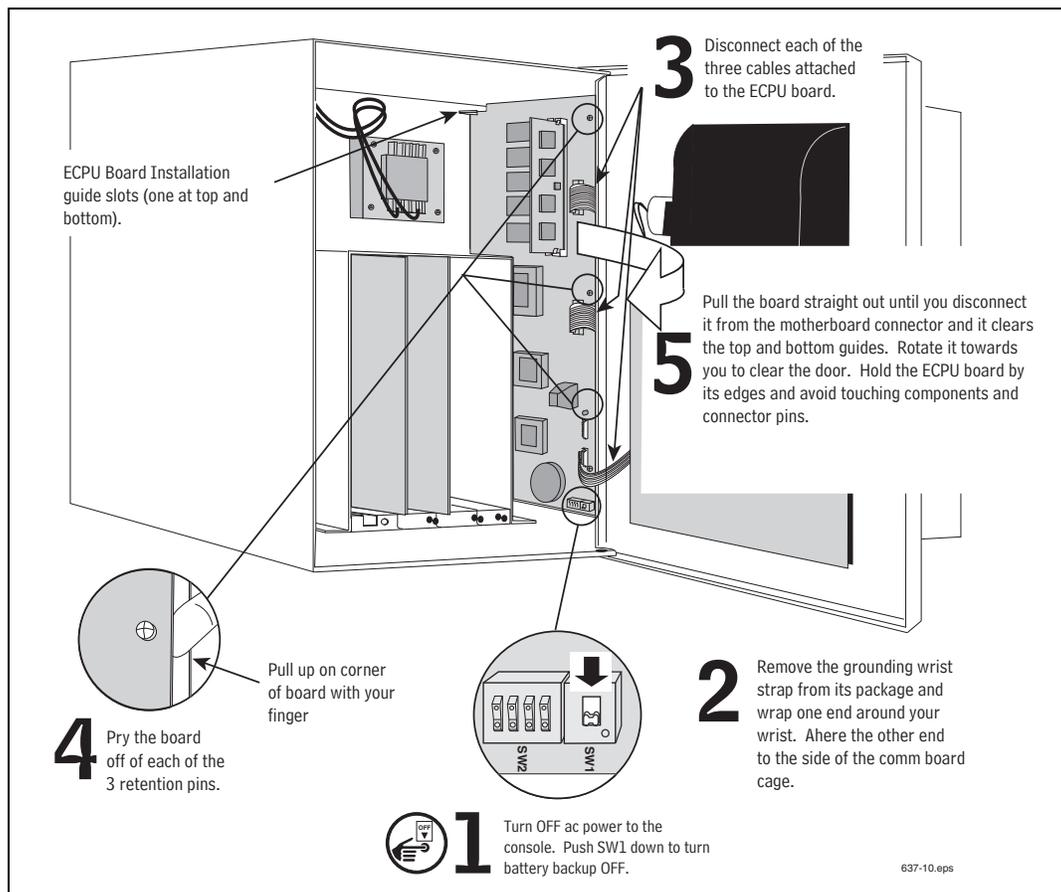
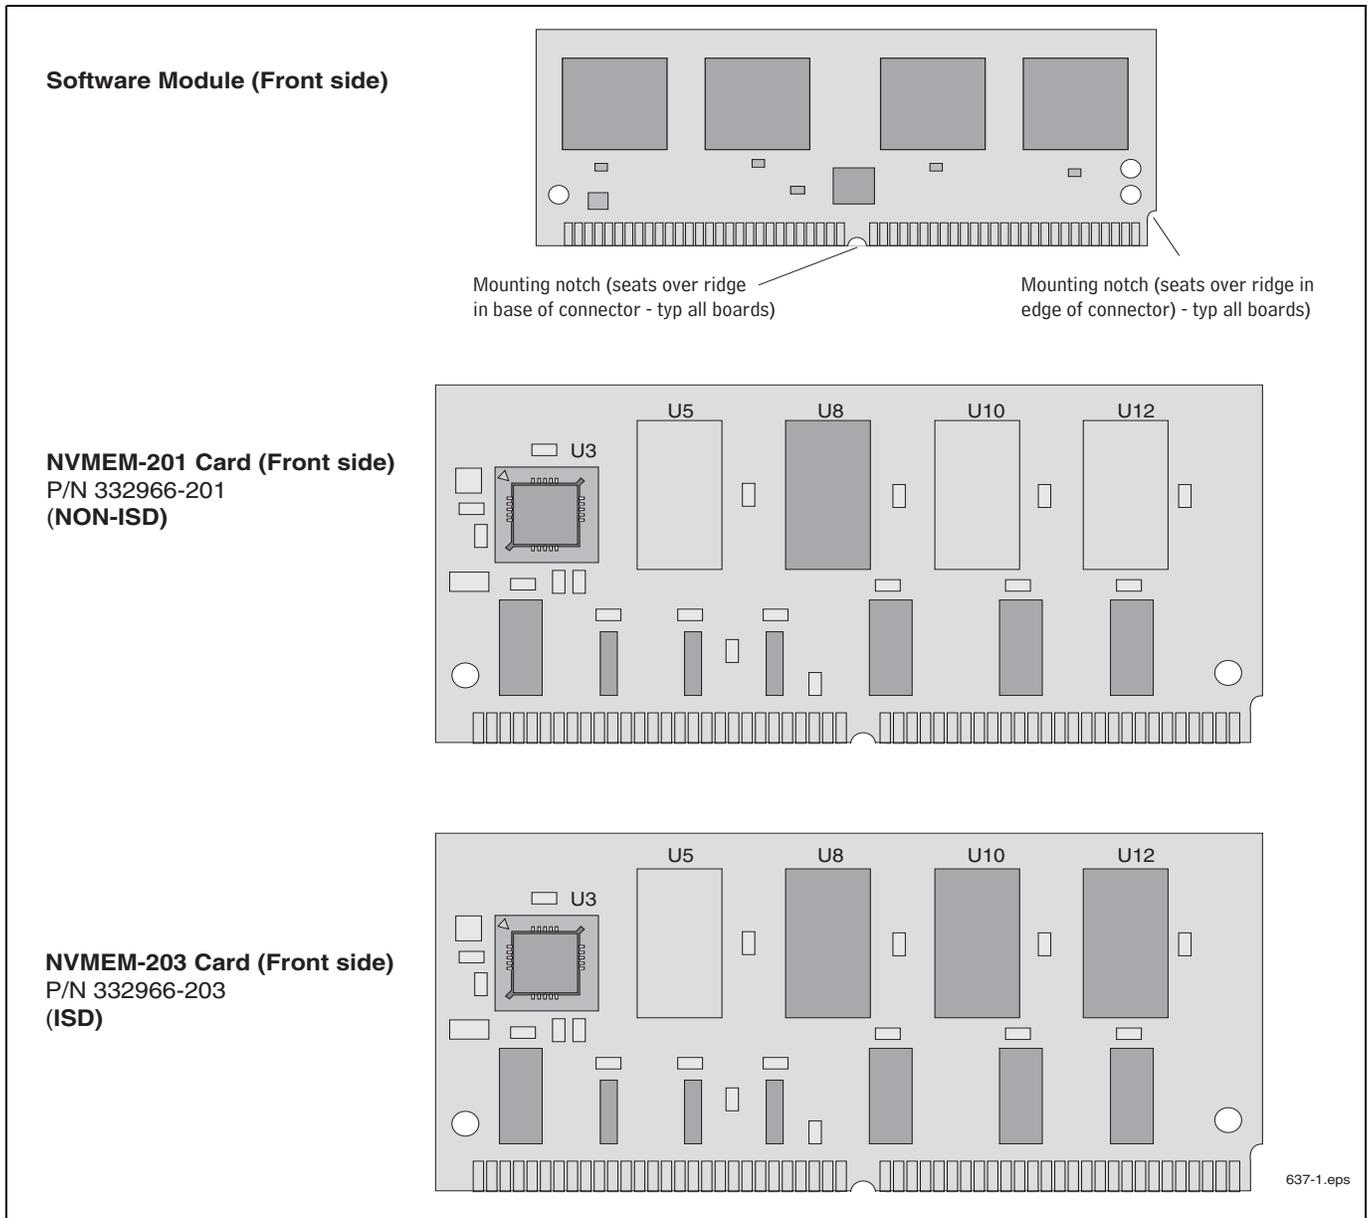

Figure 1. Removing the ECPU Board
Figure 8. Software and Memory Module Component Layouts
2. Switch Off power to the Console. Open the left front door of the console. Follow the steps in Figure 1 to remove the ECPU board.
3. Open the front door of the console and locate the ECPU board Figure 1 on page 6. Figure 8 shows the layout of software module and the two memory modules (NVMEM-201 and NVMEM-203).
1. Switch Off power to the console. Open the left front door of the console and locate the ECPU board [reference Figure 1 on page 6].